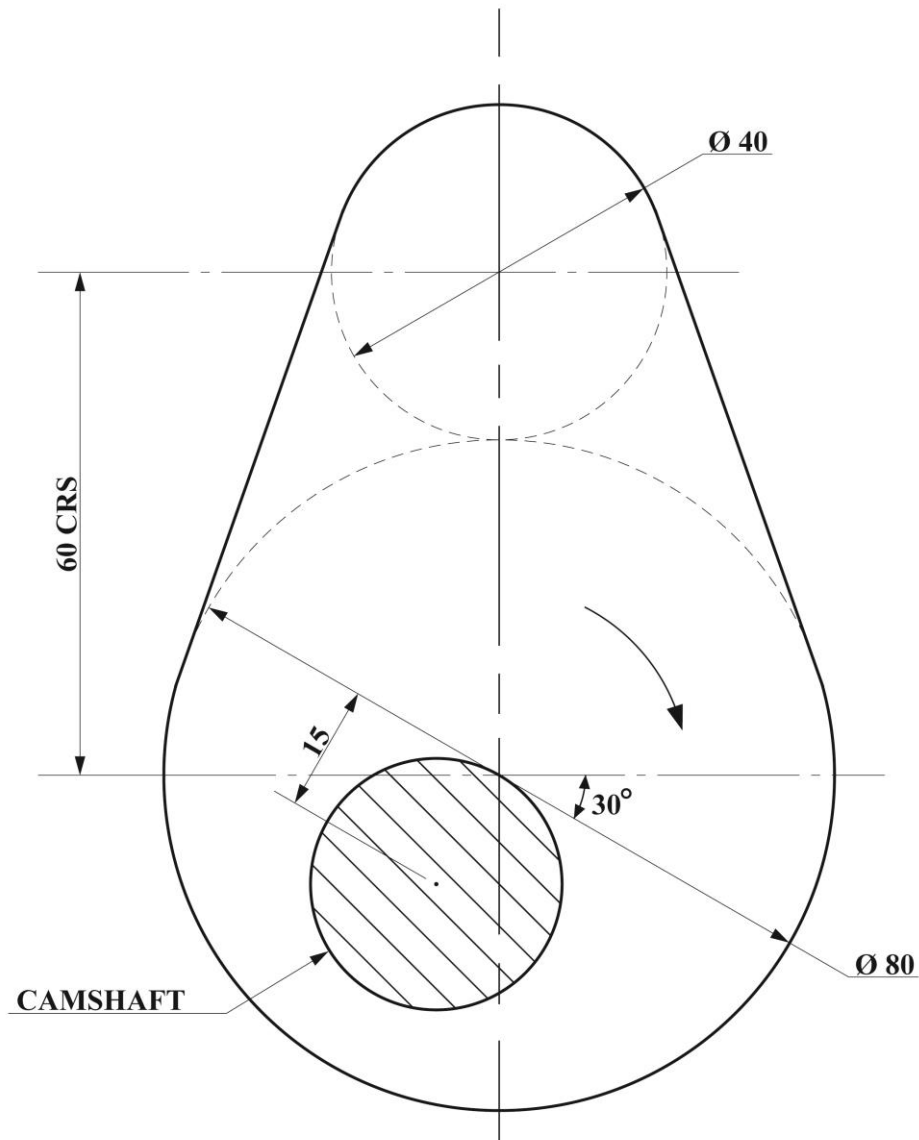

Figure 2. Plate cam
2. Figure 2 shows a plate cam with its camshaft clearly identified.
| (a) | Reproduce the cam shown in Figure 2. | [4 marks] |